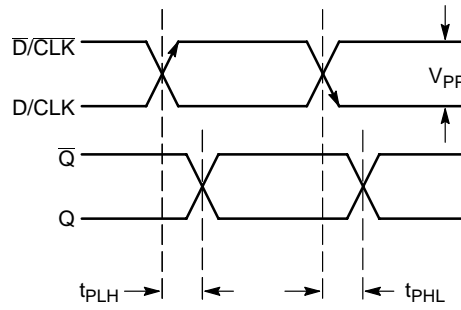

Figure 5. AC Reference Measurement
23. See Figure 5.  $t_{SKEW} = |t_{PLH} - t_{PHL}|$  for a nominal 50% Differential Clock Input Waveform.